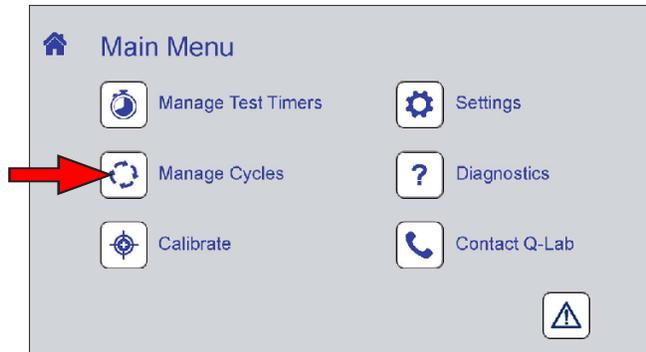

Figure 11.7.1a: Manage Cycles icon.
- On the Main Menu screen touch the Manage Cycles icon (Figure 11.7.1a) to display the Manage Cycles screen.